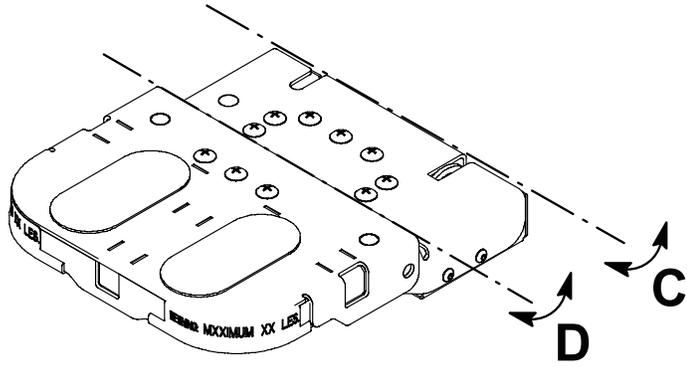
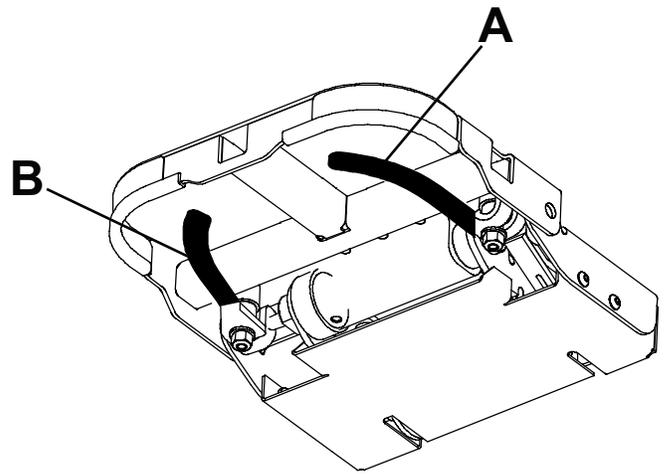

Figure 8 – Rotate the headpiece
Figure 9 – Handle locations
- Handle (A) (Figure 9) releases one latch and rotates the headpiece on axis (C) (Figure 8).
- Handle (B) (Figure 9) releases the other latch and rotates the headpiece on axis (D) (Figure 8).